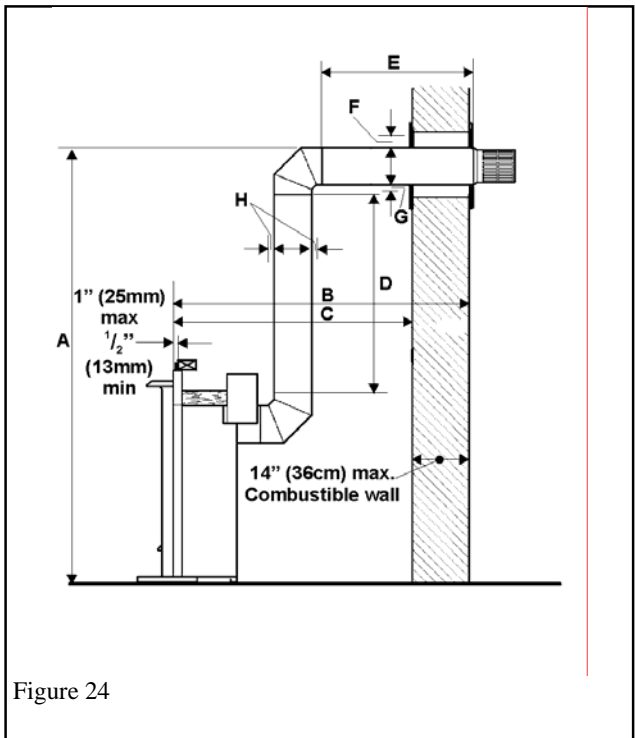

Figure 24
5.2.3. Rear vent connection, vertical vent rise with horizontal termination (Fig. 24)
The location requirements are (See figure 24):-
The dimensional requirements in section 5.2.3 and figure 24 apply.
5.2.6. Corner location, rear vent connection, vertical rise, horizontal termination (Figs 24 & 26)